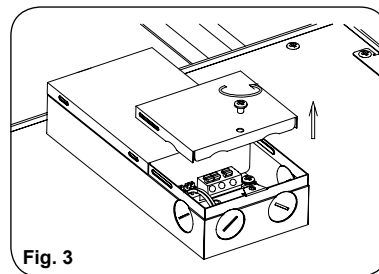

Fig. 3
4. Remove electrical enclosure cover. (Fig. 3) Carefully remove knockout for AC line input wires. If using the 0-10V dimming controller; wires must run through a separate knockout than the AC input wire. Install listed electrical fittings in the knockout holes for wire protection if needed. (Fig. 4)